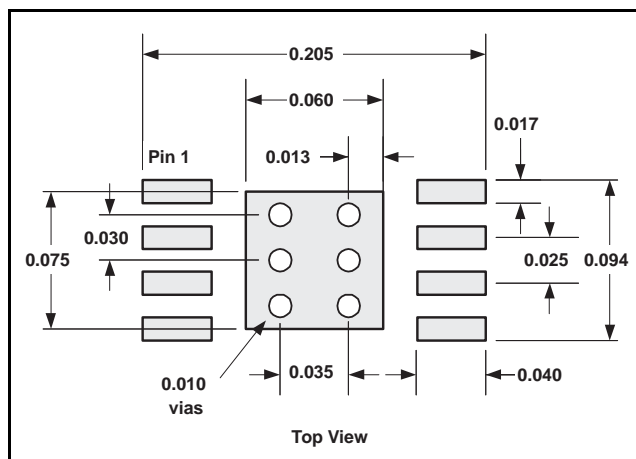

Figure 113. PowerPAD PCB Etch and Via Pattern
1. Prepare the PCB with a top side etch pattern as shown in Figure 113. There should be etch for the leads as well as etch for the thermal pad.